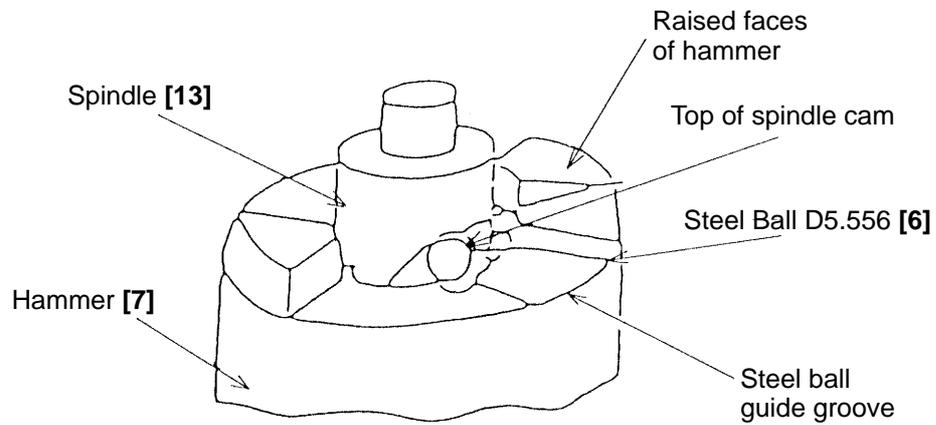

Fig. 9
(3) Reassembly of the hammer assembly
- (a) Put Washer (S) **[11]** onto the shaft of the Spindle **[13]** and mount the Hammer **[7]** containing the thirty Steel Balls D3.175 **[8]**, Washer (J) **[9]** and Spring (A) **[10]** to the Spindle **[13]**.
- (b) Align the top of the cam groove on the Spindle **[13]** with the steel ball guide groove on the Hammer **[7]** as illustrated in Fig. 9. Press down either of the raised faces of the hammer **[7]** with a hand press to compress Spring (A) **[10]** until the end surface of the Hammer contacts the flange of the Spindle **[13]**.
- (d) Mount the hammer assembly onto the J-297 base for washer (S). With a hand press, push down the top of the Spindle **[13]** to compress Spring (A) **[10]**. On this condition, mount the Stopper **[12]** onto the spindle shaft and then release the hand press.
- (e) Mount the Ring Gear **[16]**, Ball Bearing **[18]**, Inner Cover **[19]**, O-Ring **[20]** and Damper **[21]** to the above reassembly. Furthermore, mount the other mechanical parts and Anvil (C) Ass'y **[4]**, then the Hammer Case **[2]**.
(4) Mounting the assembly from the Hammer Case **[2]** to the Inner Cover **[19]** to the housing assembly